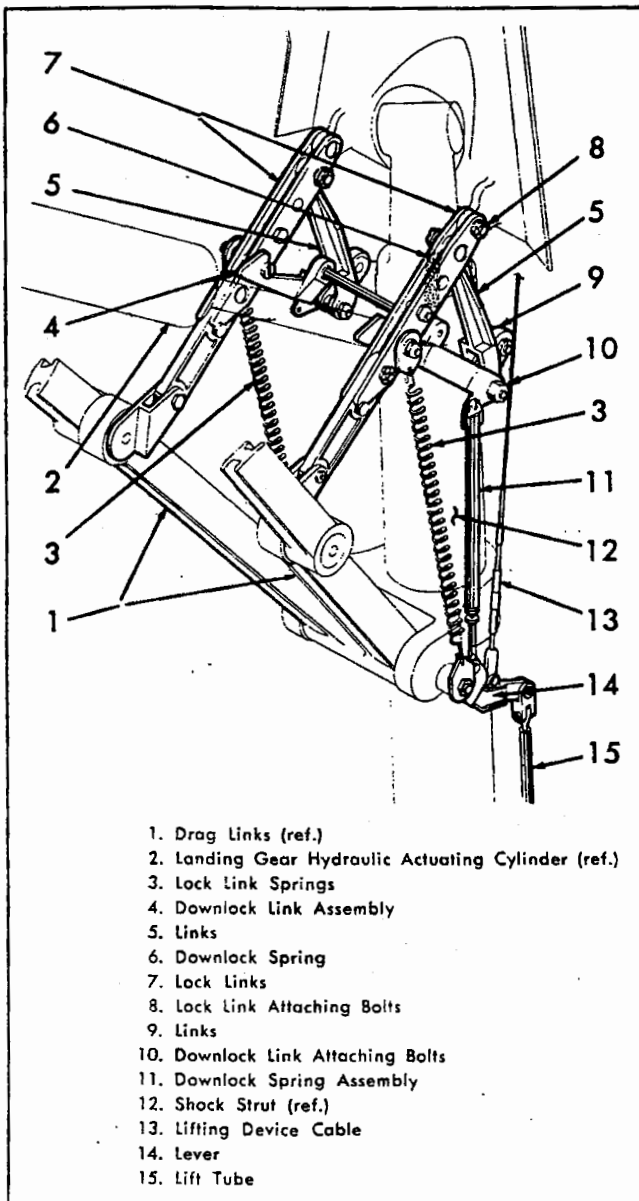

Figure 4-45. Positive Downlock Mechanism.
- b. Remove the movable landing gear fairing (11) as described in paragraph 4-333.
- c. Take off the wheel (1) by removing the lock ring, hub cap, and axle nut. Use a special wrench (VS-45678) for removal of axle nut. The washer, bearing, and wheel may now be slipped off the axle.
- d. Disconnect the flexible brake hose (13) at the union in the wheel well. Cap the union to prevent subsequent dripping of oil. Cap the hose to keep out dirt.
- e. (Callouts in steps e. through j. will be found on figure 4-45.) Disconnect the downlock latch spring (6) of the downlock mechanism from the upper outboard lock link (7). Disconnect the upper end of the two lock link springs (3) from the lugs on the lock link.
- f. Disconnect the spring assembly (11) from the downlock link assembly (4) and from the lug on the